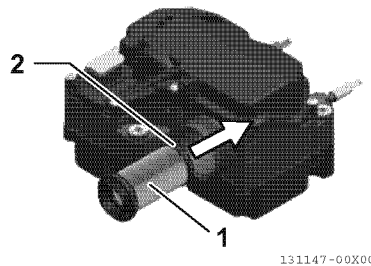

Fig.25-47
- 9 - For new filter elements (1, Fig.25-47), use the main filter kit shown on the next page. Apply bearing oil (Mobil Velocite # 6 is recommended) to the O-ring (2, Fig.25-47) and attach it. Insert the filter element all the way in and be careful not to damage the O-ring when replacing it.